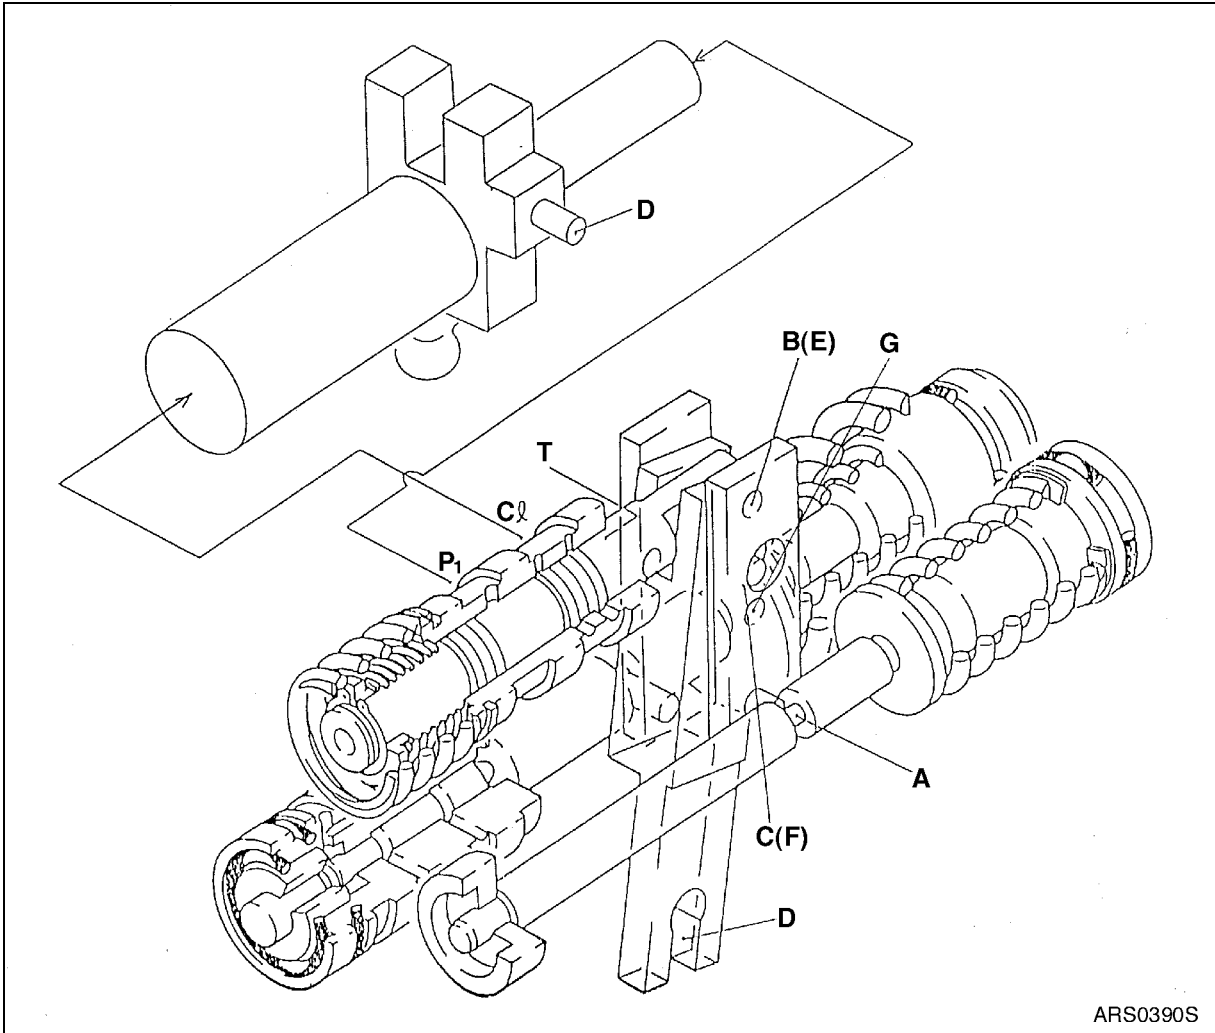

Figure 23
The groove (A) in the pilot piston is attached with pin (875) that is fixed to lever 2 (613). Therefore, when the pilot piston moves, lever 2 rotates around the fulcrum of point B (fixed by the fulcrum plug (614) and pin (875)). Since the large-hole section (C, Figure 23) of lever 2 contains a protruding pin (897) fixed to the feedback lever (611), the pin (897) moves to the right as lever 2 rotates. Since the opposing-flat section (D) of the feedback lever is attached with the pin (548) fixed by the tilting pin (531) that swings the swash plate, the feedback lever rotates around the fulcrum of point D, as the pin (897) moves. Since the feedback lever is connected with the spool (652) via the pin (874), the spool moves to the right.